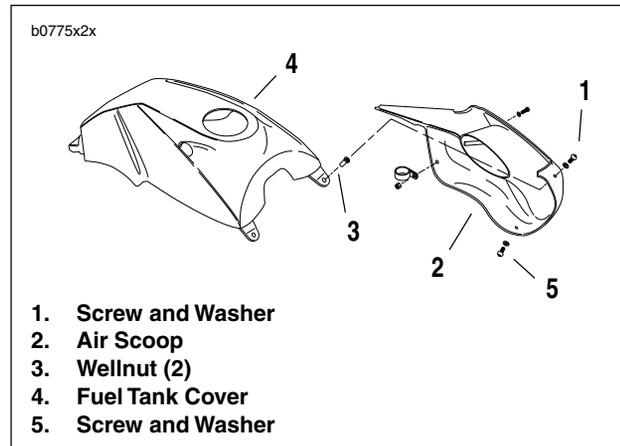
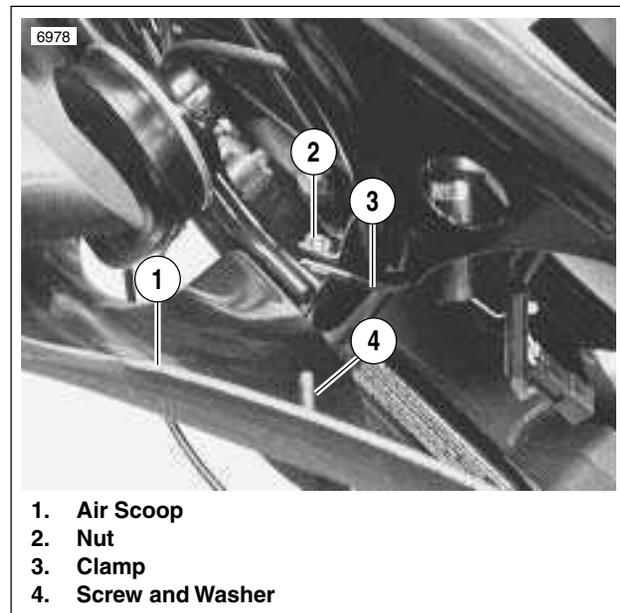

Figure 2-124. Air Scoop
Figure 2-125. Air Scoop Clamp
1. See Figure 2-124. Remove screw and washer (1) from wellnut (3) at front of air scoop (2).
2. Remove screw and washer (5) from wellnut at bottom of air scoop.
3. See Figure 2-125. Remove screw, washer and nut holding air scoop (1) to clamp (3).
1. See Figure 2-124. Position air scoop (2) over fuel tank cover (4).
2. Fasten air scoop (2) to fuel tank cover (4) using screw and washer (1) and wellnut (3) at front of scoop.
4. See Figure 2-125. Install screw, washer, and nut to attach air scoop (1) to clamp (3).